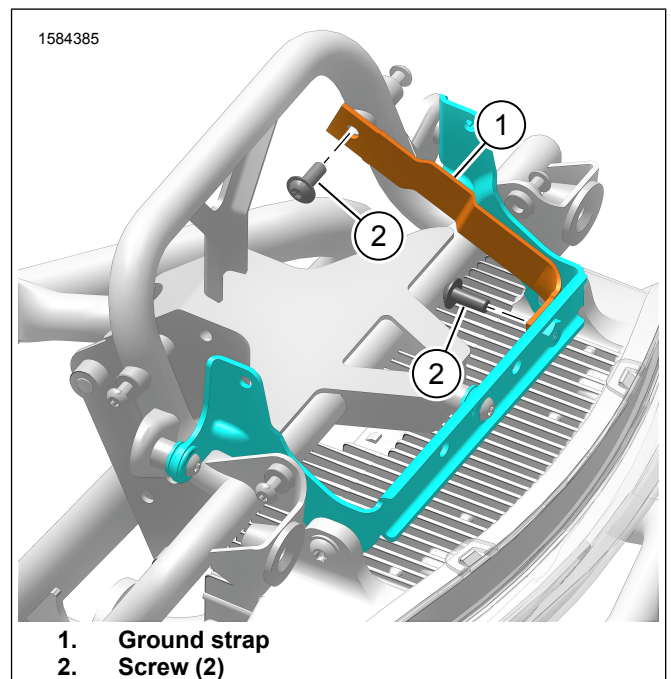

Figure 4. Ground Strap
2. See Figure 4. Install ground strap (1).
3. Install screws (2). Tighten.